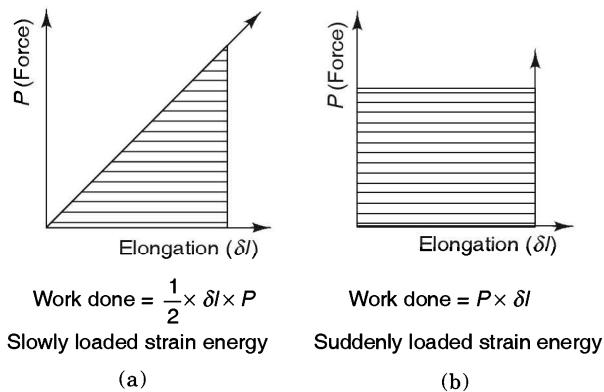

FIGURE 15.21 Strain energy.
- (a) Slowly applied force (Figure 15.21(a))
- (b) Suddenly applied force (Figure 15.21(b))